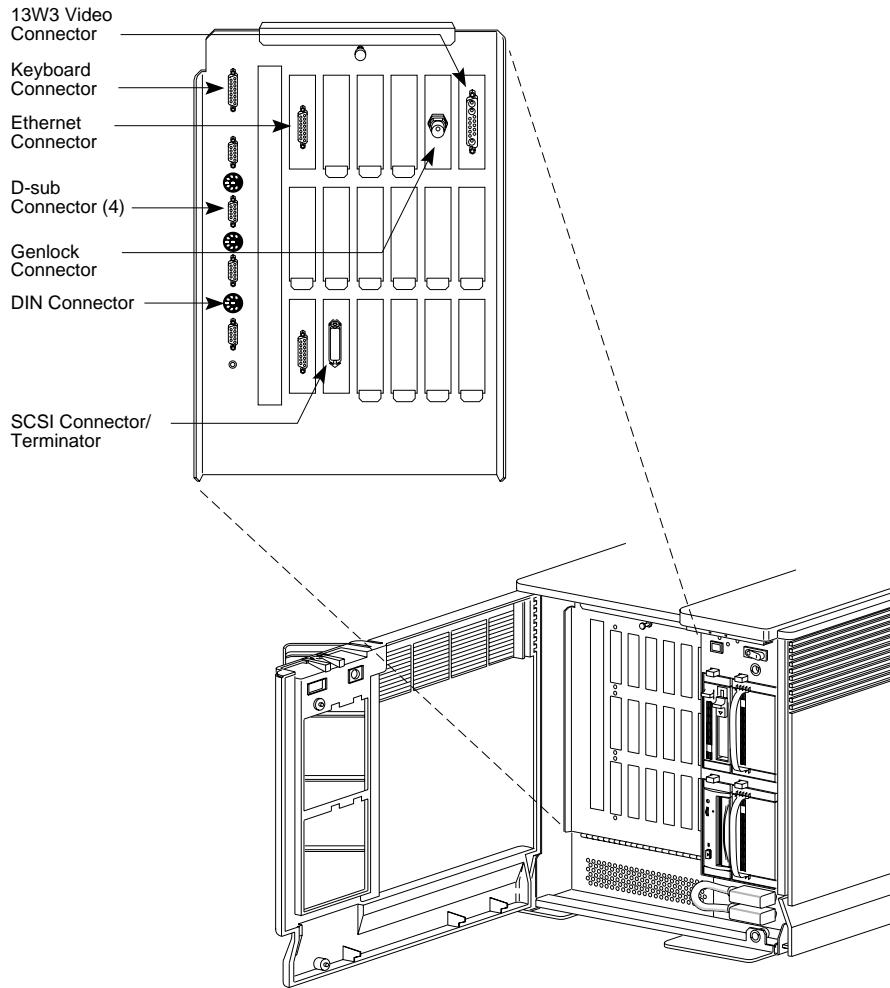

Figure 3-4 Cable Routing to I/O Panel
5. Mount the connector plates to the I/O door as shown in Figure 3-4.